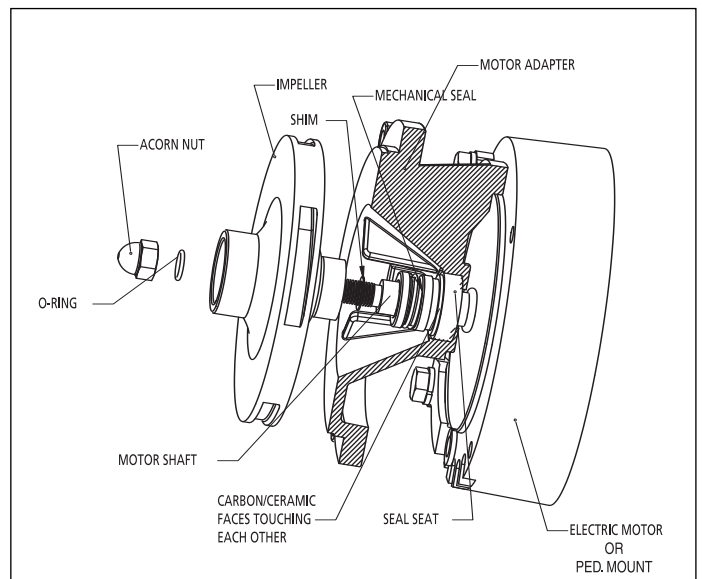

Figure 6 - Seal and Impeller Installation
6. Wet the inside rubber portion of the new seal (part of Ref. No. 6) with a light coating of soapy water. Slide onto the motor shaft with the precision sealing surface (carbon) facing the seal seat ceramic face (See figure 6). This completes seal installation.
7. Screw impeller (Ref. No. 8) onto shaft. Use screwdriver slot at rear of motor shaft (opposite the threaded end) to securely tighten impeller. A drop of removable thread lock should be applied to the impeller threads. Impeller should be torqued to 15 to 18 ft-lbs. (180 to 210 in-lbs.) (See figure 6).